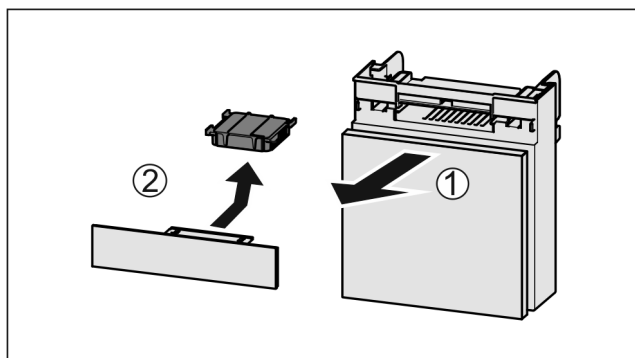

Fig. 165
- ▶ Pull out the compartment Fig. 165 (1).
- ▶ Remove the carbon filter Fig. 165 (2).